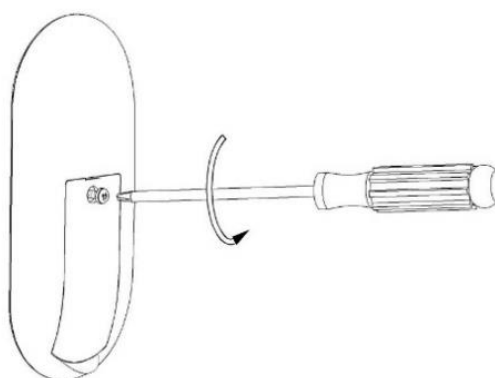

Fig. 7b
2. To replace a new battery, loosen the screw from the battery compartment cover (Fig. 7b).